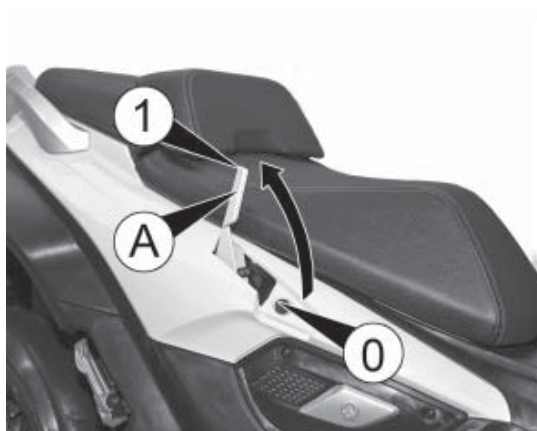

fig. 7
- Rotate the parking brake lever A fig. 7, located on the right-hand side of the scooter, from position 0 position 1